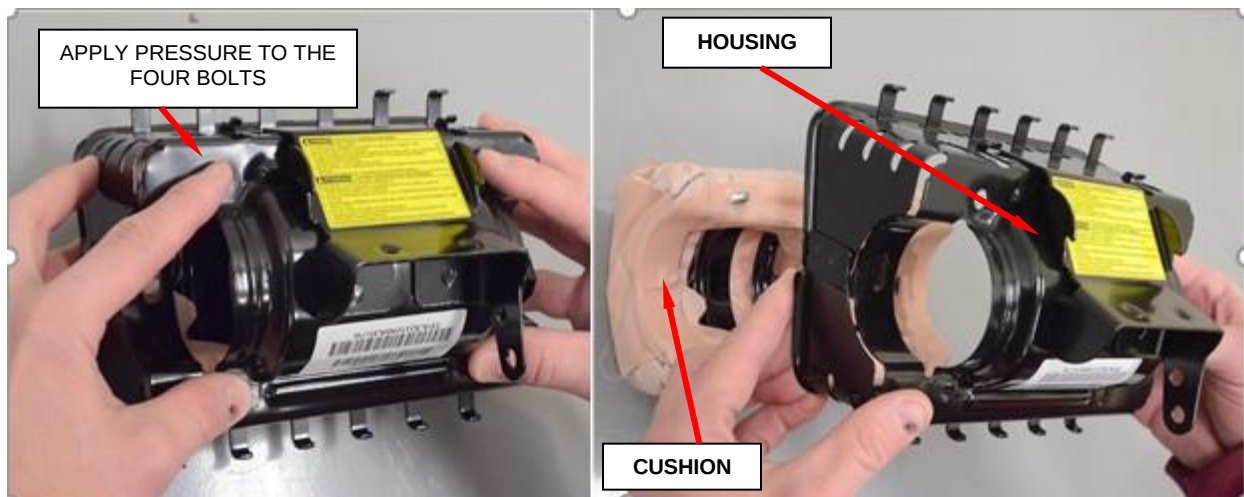

Figure 38 – Remove Airbag Cushion from Housing
- g. Remove airbag cushion from housing by applying pressure to the bolts, set cushion aside (Figure 38).